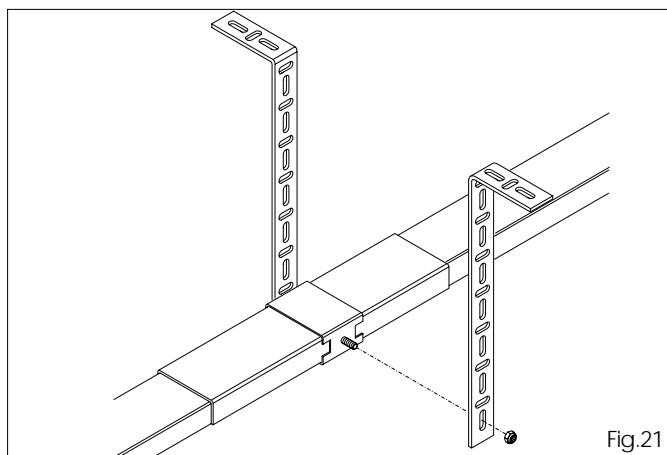

Fig.21
- 6.15 If using the central support guide, shape the brackets, lock them with a nut and secure them to the ceiling (fig. 21).